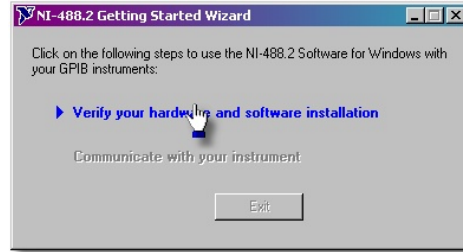

Figure 9A. Getting Started wizard page 1
- a. If the error message *did not* appear, the **NI-488.2 Getting Started Wizard** dialog will look like Figure 9A. Click on **Verify your hardware and software installation** and proceed to Step 6 below.